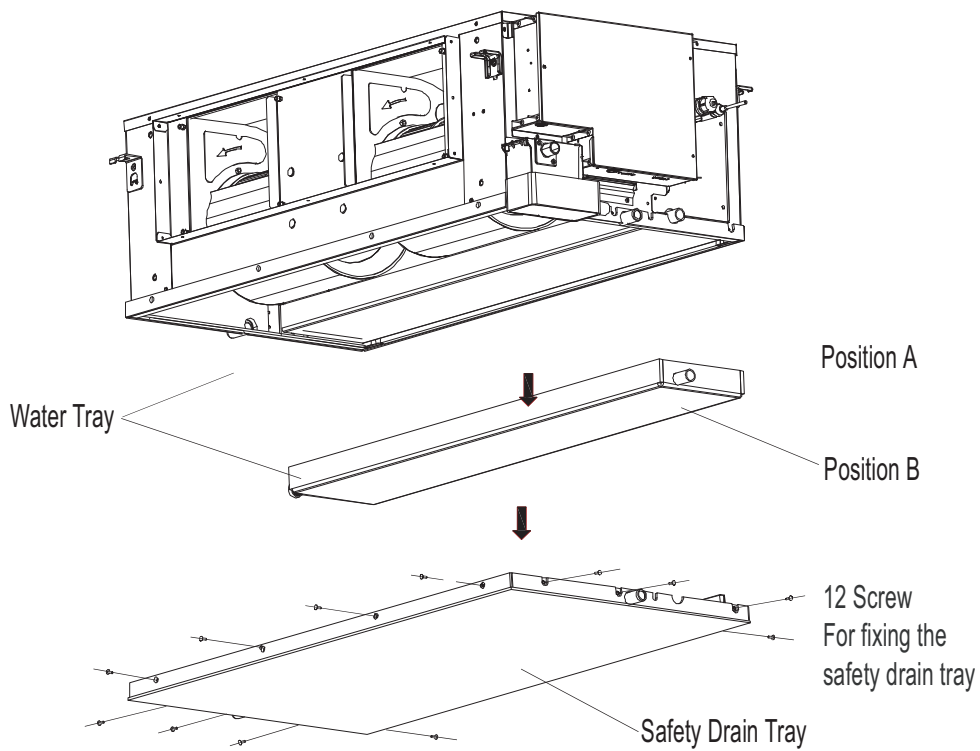

Fig. 40 —Fan Disassembly (048-054)
1. Remove the 12 screws from the fixed Safety Drain Tray, and then take off the tray. See Fig. 40.
2. Take off the tray along the direction of the arrow. See Fig. 40.